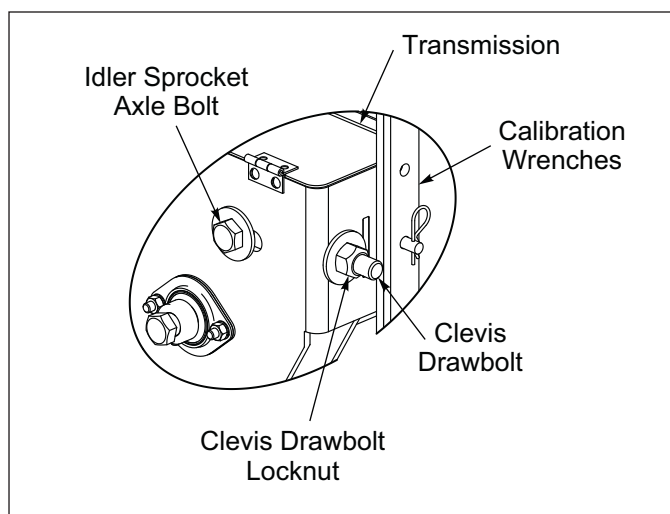

Figure 2-42: Loosen Idler Sprocket
5. On the back of the Transmission by the Calibration Wrenches, loosen the Transmission #40 Drive Chain Idler Sprocket Axle Bolt and Clevis Drawbolt Locknut to loosen Drive Chain tension. **See Figure 2-42.**